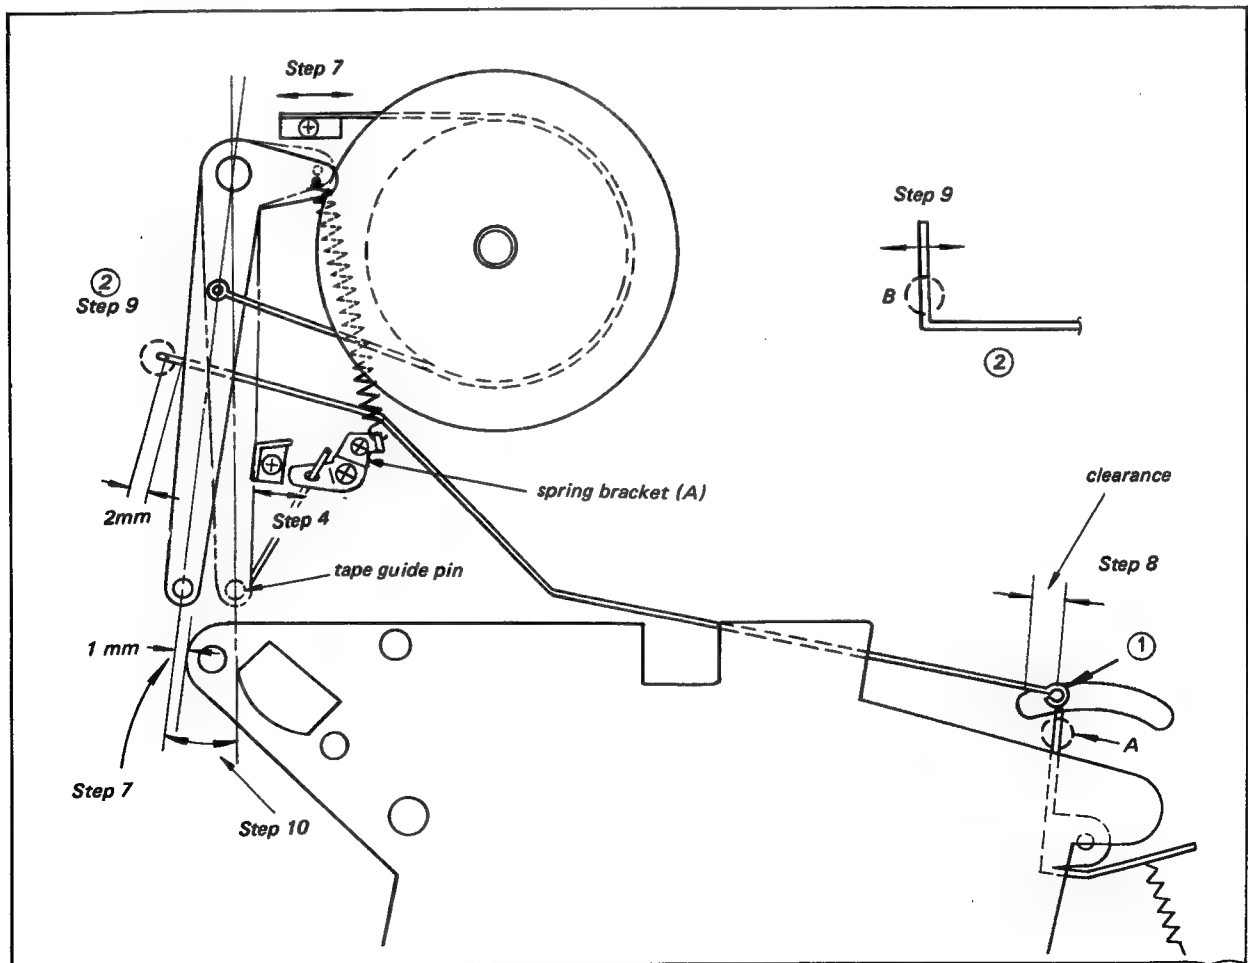

Fig. 4-9. Tension arm adjustment
7. Check the distance between the Tape Guide Pin on the Tension Arm and the extreme left edge of the drum deck as shown in Fig. 4-9. It should be about 1 mm. Swing the Brake Band as needed to obtain the correct spacing.
8. Check for clearance between the hole in the chassis and Item ① shown in Fig. 4-9. If the correct clearance cannot be obtained, bend Part A with a pair of pliers to obtain the gap. (Don't bend it too much.)
9. Check the distance between the rod and the Tension Arm as shown in Fig. 4-9. It should be 2 mm. Bend the end of rod as needed to obtain the correct spacing.
10. Set the Function Lever to the STOP position. Check the position of the Tape Guide Pin shown in Fig. 4-9. Reposition the Tension Arm Spring Bracket to obtain the correct position.